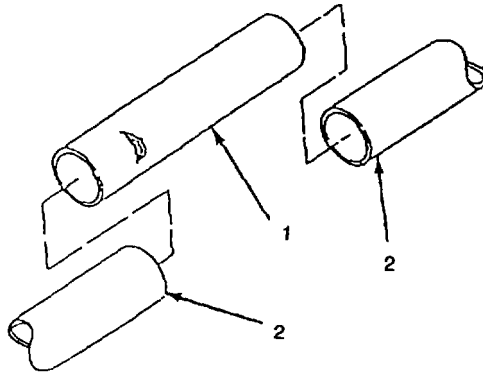

Figure 3-2. Removing Damaged Hose Section
- (c) Cut both sides of hose (1, Figure 3-2) 6 inches (15.2 cm) from leak. Remove damaged section of hose.